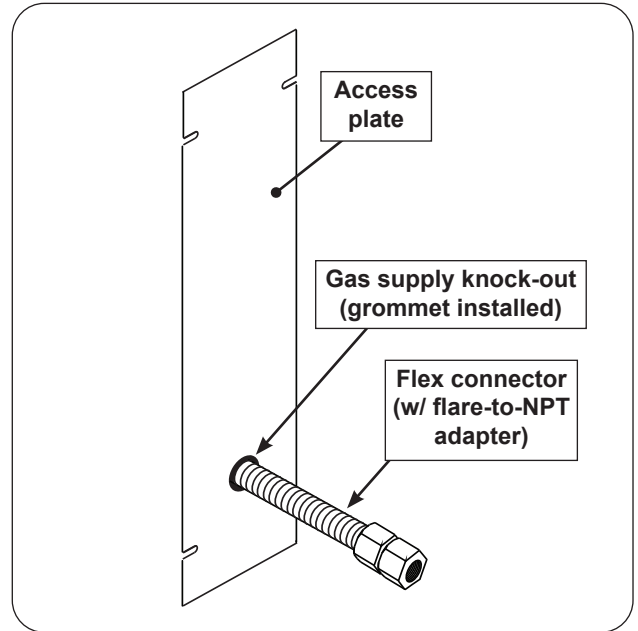

Fig. 22-1 Access plate view & install orientation
2. Remove the plastic grommet (attached to the flex connector) and insert it into the newly created opening. Then route the flex connector through the opening. See Fig. 22-1 and 22-2.